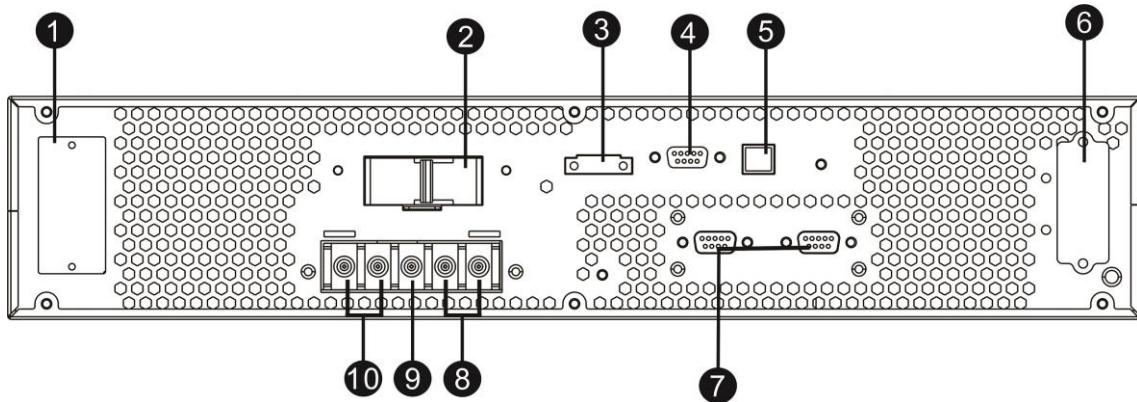
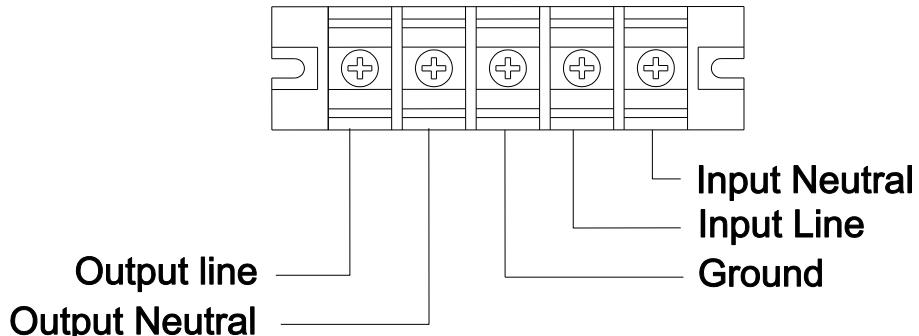

Figure 4 - Rear Side EVO DSP PLUS 6.0 RM - EVO DSP PLUS 10.0 RM
Figure 5 - Input/Output Terminals
1. The Input circuit breaker of UPS unit is “OFF” (see figure 4).
2. The Battery circuit breaker of Battery Box unit is “OFF” (see figure 4).
1. Remove the **metallic panel that covers the Input/Output terminals**, see figure 4. The terminals are shown in figure 5. All the cables have to reach the terminals from the rear side using the proper holes in the metallic panel.
2. Connect the **INPUT line (LINE, NEUTRAL and GROUND)**, paying attention to the right polarity, in accordance with figure 5, as explained below:
- ▶ Remove the metallic cover of Battery connector on the UPS unit (# 9 figure 4)
- ▶ Remove the metallic cover of Battery connector on the Battery Box unit (# 15 or #16, figure 4)
- ▶ Connect the AC Input power socket of the Battery Box unit (# 13 figure 4) to an AC utility line for recharging batteries.
1. Install and wires the UPSs according to the **Figure 5**.
7. Turn “ON” the Battery circuit breaker of the Battery Box unit (see figure 4).
8. Check if the Input circuit breaker the rear side of UPS unit is in “OFF” position (see figure 4).